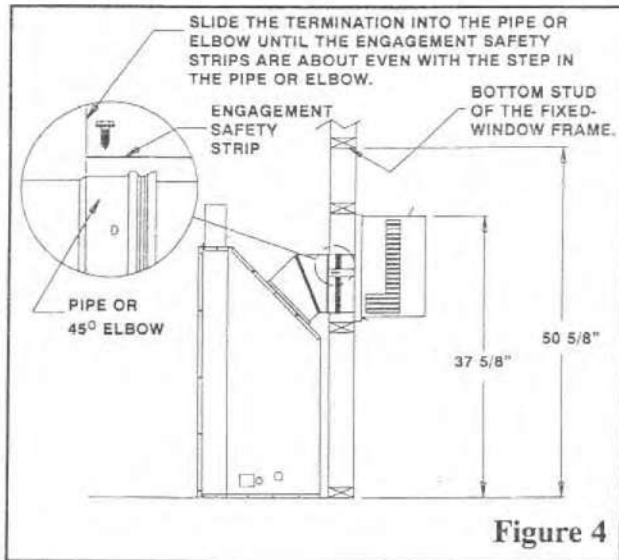

Figure 4
The final position of the termination should comply with the dimensions shown below in figure 4.
- 4.) Position the termination as shown in figure 4. The outer pipe of the termination must slide into the open end of the 45° elbow. The 45° elbow must overlap the termination's outer pipe until the engagement safety strips are about even with the step in the elbow. See figure 4.
- 6.) Secure the termination to the 45° elbow using the #10 sheet metal screws through the holes in the engagement safety strips. See figure 4.